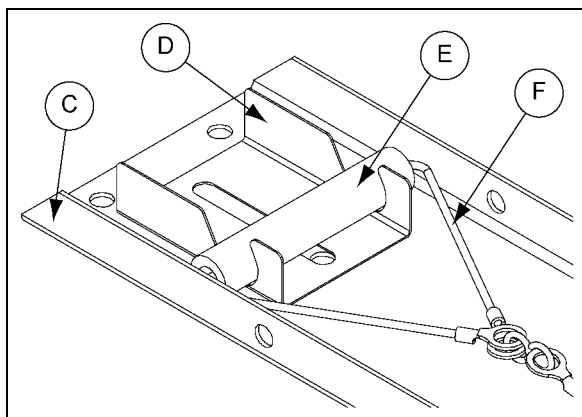

Figure 3 Bracket Orientation
2. Attach the bracket (D) to the shutter frame (C) using the 5/16" slotted bolt (S-6620) and the 5/16" flange nut (S-10268). Align the bracket (D) so the slots on the sides are angled up and away from the center of the shutter (See Figure 3) and center the bracket on the hole.
- Place handle assembly (E) into the slots of the bracket (D). Cable and S-Hook (F) should be toward the center of the shutter. *(See Figure 3 on Page 1.)*